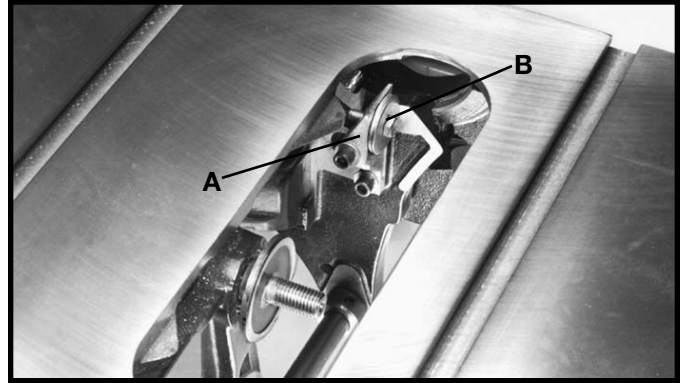

Fig. 13
3. The inside splitter mounting bracket (A) Fig. 13, is assembled to the inside of the saw and aligned at the factory. To check the alignment of the bracket (A) to the inside arbor flange, remove screw and splitter fastener plate (B) Fig. 13.